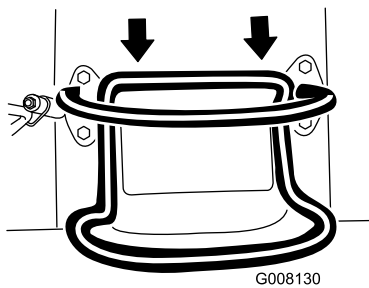

Figure 8
- To move rearward, move the traction control rearward (Figure 8). **When reversing, look behind for obstructions and keep your hands on the reference bar.**